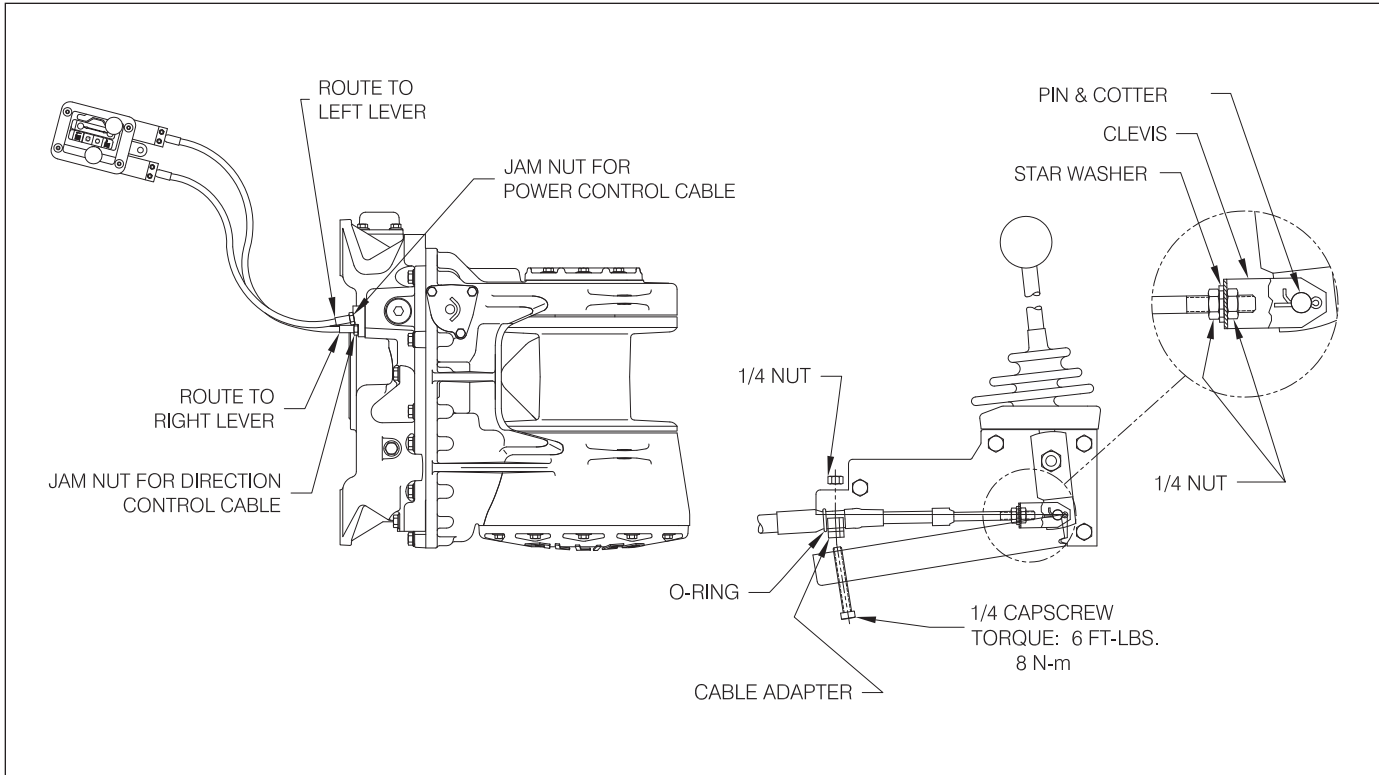

Figure 16 - PFR Control Lever Disassembly and Adjustments
2. Remove the aluminum bottom cover from the control lever housing by removing the two Phillips head screws (see Figure 16).